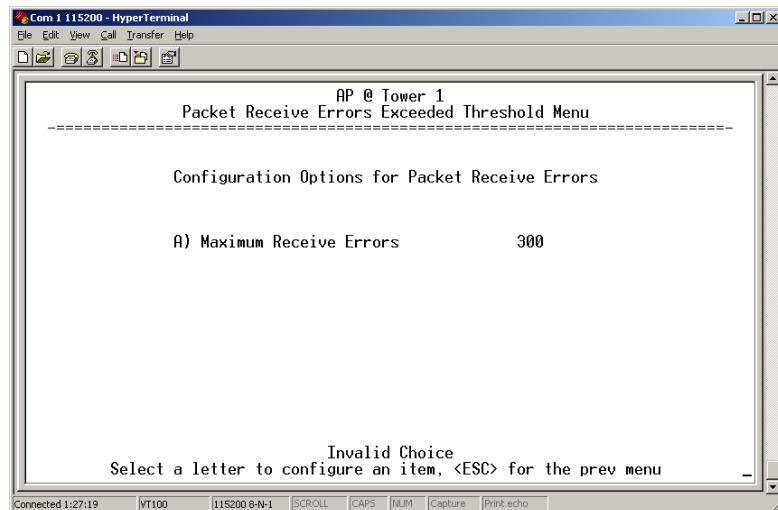

Figure 3-39. Packet Receive Errors Exceeded Threshold Menu
- **Packet Receive Errors exceeded threshold**— This setting determines whether or not a switchover occurs when the number of Packet Receive errors exceeds the number set in Figure 3-39 on Page 65. [**enabled, disabled; disabled**]
- **Packet Receive Errors Exceeded Threshold**—This selection presents a submenu (Figure 3-39) where you can view or change the maximum allowable number of receive errors.